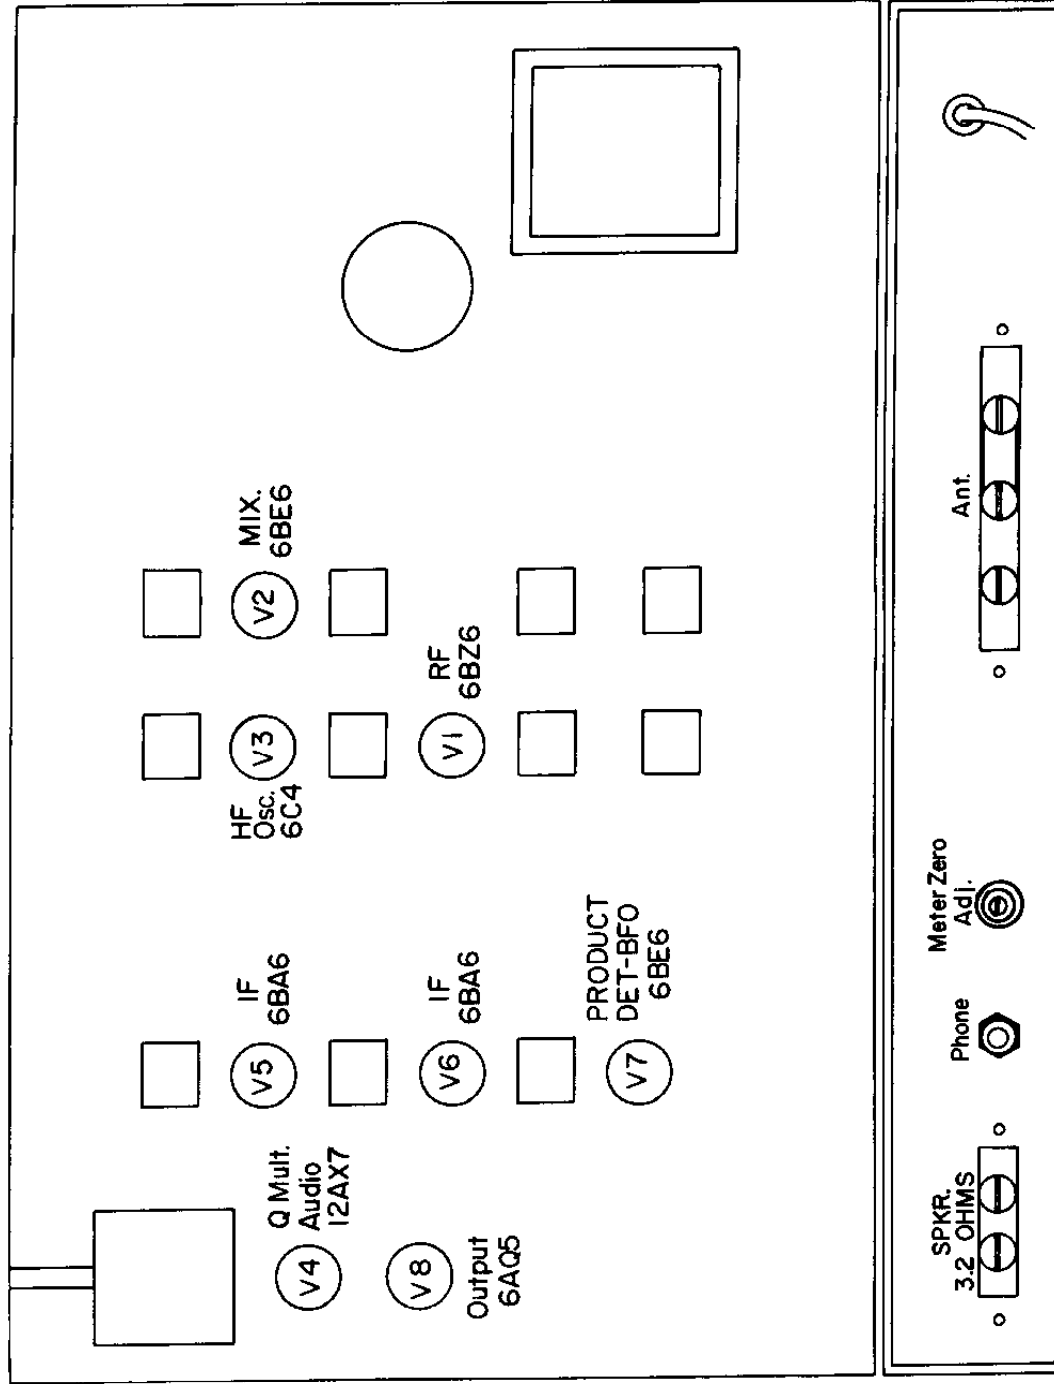

FIGURE 4-1. TUBE LOCATION.
D. During alignment, adjust the generator output to prevent over-loading. Adjust each of the three IF transformers for maximum meter reading. Topside adjustments (Figure 4-1) are secondaries or grid circuits; bottom of chassis adjustments (Figure 4-2) are primaries or plate circuits. The reading on the voltmeter should be kept below -3.0 volts.
B. All RF and oscillator slug adjustments are made from the top of the shield cans. See Figure 4-1.
Figure 4-1 indicates the particular adjustment for each band of the receiver and the frequency at which they are to be adjusted.
B. Check to see that the frequencies at or near the alignment frequencies are "on the line". If not, make minor adjustments of the slugs and trimmers (Figure 4-1) to make them correct.